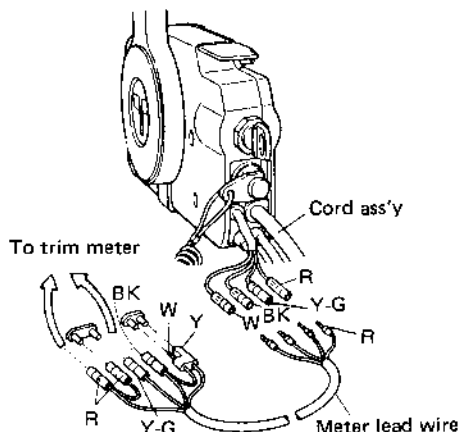

Fig. 16
- Connect black, red, white and yellow-green meter lead wires to corresponding lead wires coming from the remote control box. (Fig. 16)